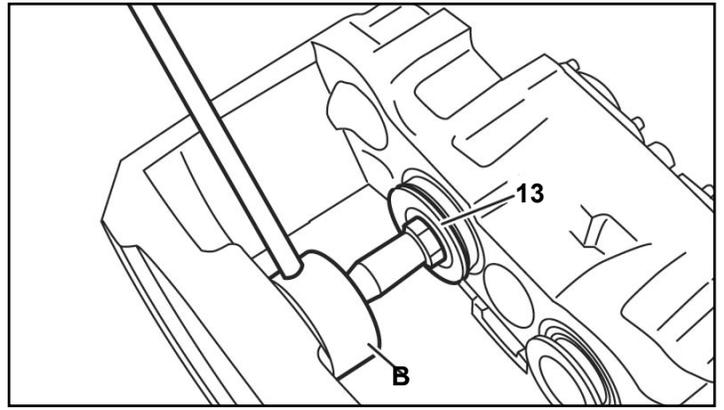

FIGURE 14 - OFF VEHICLE TAPPET INSTALLATION
- Position a tappet (13) onto each tappet bushing. Using press-in tool (B) in a reversed orientation with the press-in extension (T3 + T4) towards the threaded tube, install each tappet onto its tappet bushing - see Figure 14.